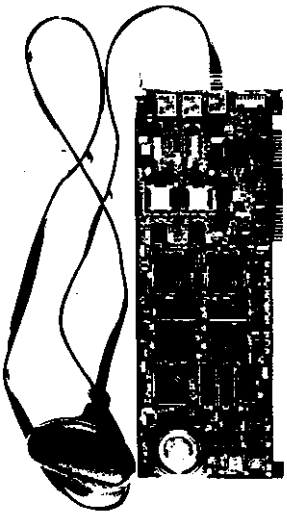

Figure 2. Internal Modem
- GEMINI™ internal modem (Figure 2)